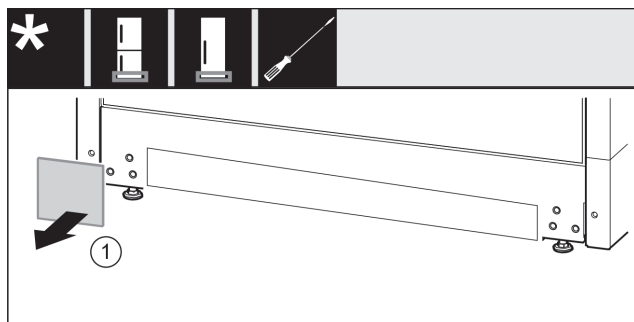

Fig. 15
- Take off the cover. Fig. 15 (1)